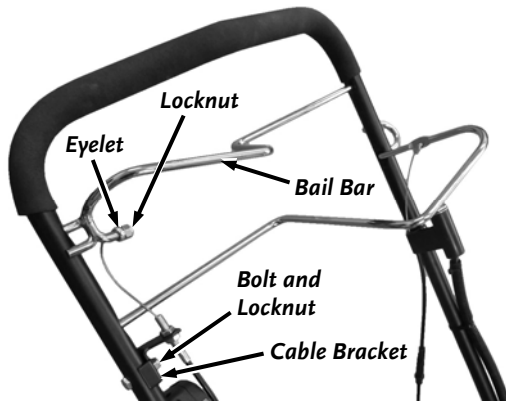

Figure 35
5. Remove the Locknut that is securing the Drive Cable Eyelet to the Bail Bar using a 7/16" Wrench and remove the Eyelet from the Bail Bar (Figure 35).
20. Reattach the Cable Bracket to the Handlebar using two 7/16" Wrenches (**Figure 35**).